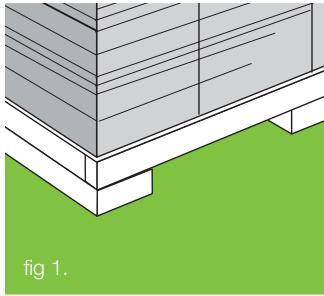

fig 1.
- Covered on a pallet and must not be stored directly on the ground (figure 1)
- Stored flat and above ground (figure 1)